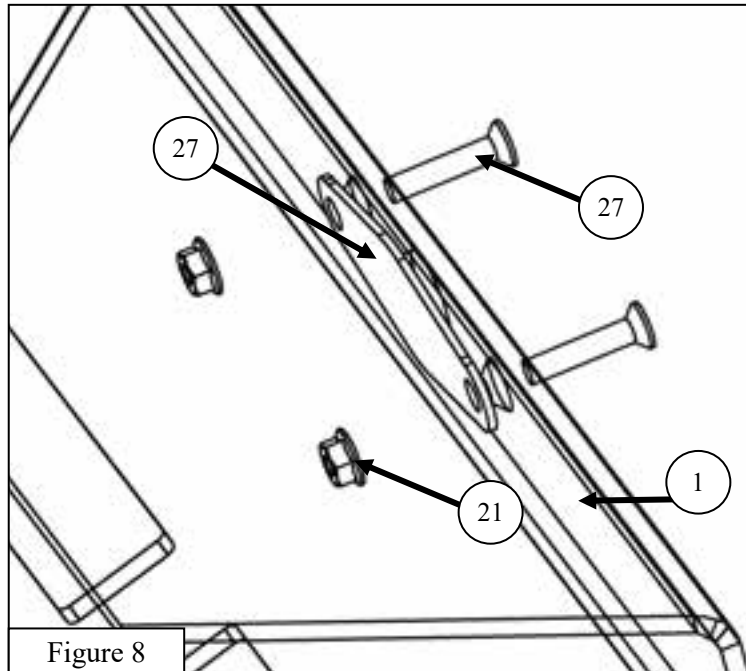
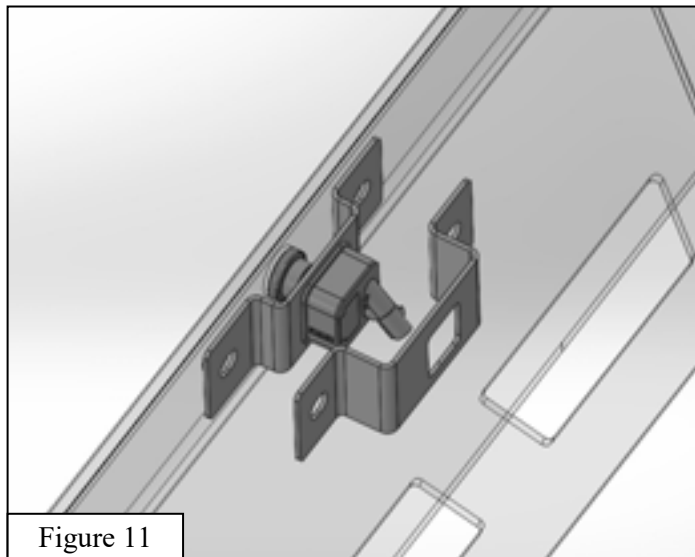

Figure 8
Figure 11
10. If camera is not installed, loosely install the camera holder cover (Item 13) to the bumper (Item 1) using (2) M6 Flat Head hardware (Items 27 and 21). Once loosely installed, tighten all the hardware. See **Figure 8**.
- Once aligned, align the inner camera holder to the screw holes and loosely mount the three parts to the bumper using the (2) M6 Flat head hardware ( items 27&21) See **Figure 8** for hardware placement. Once everything is mounted correctly tighten the bolts. See **Figures 11**.